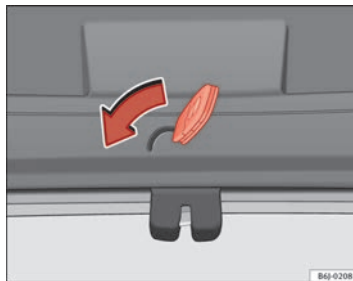

Fig. 50 Rear lid: emergency open
- Insert the key in the groove and unlock the locking system, turning the key from right to left, as shown by the arrow ⇒ Fig. 50. ■